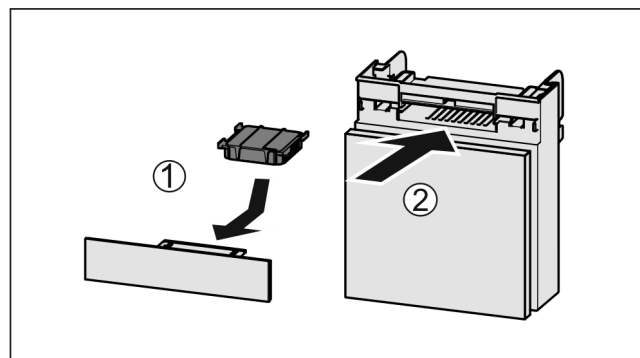

Fig. 72
- ▶ Insert the carbon filter as shown in the diagram Fig. 72 (1).
- ▶ Push the compartment in Fig. 72 (2).